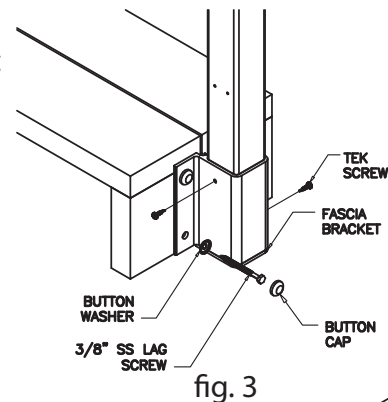

fig. 3
**2b. Fascia mounting (fig.3):** anchor each fascia bracket using four 3/8"x 3-3/4" minimum lag bolts with button washers and plastic button caps. Secure the posts into the brackets with stainless steel tek screws being sure that the top of the posts all line up.